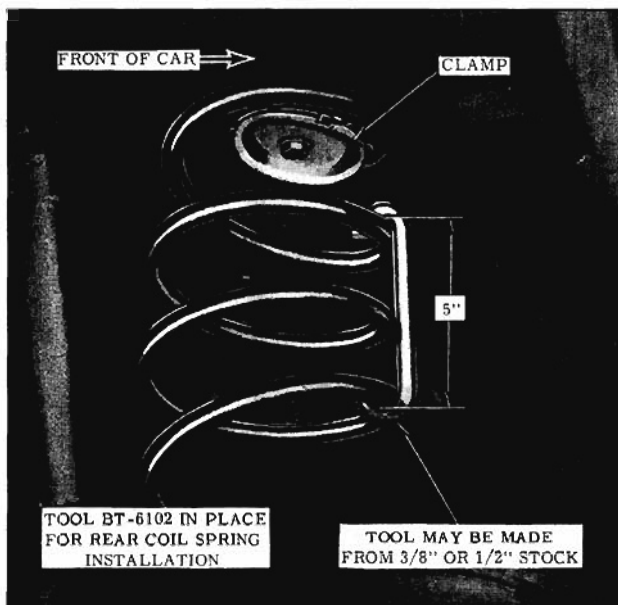

Fig. 9-38 Coil Spring Installation
- Install Spring Holding Tool BT-6102 at front of spring. (Fig. 9-38)